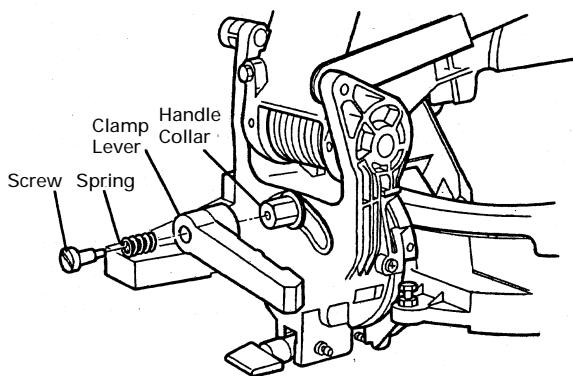

Fig. 6
- ① Insert spring and screw into the hole of the clamp lever as shown in Fig. 6.